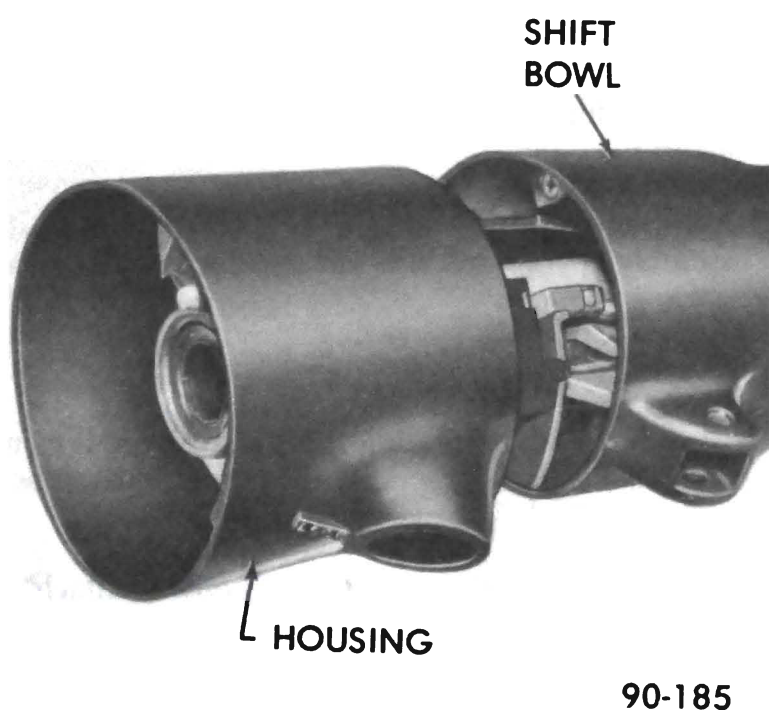

Figure 90-103 Installing Upper Bearing Housing
9. With the bowl in place, install the upper bearing housing assembly on the jacket. The bowl should be in the "Park" position and the rack pulled downward. Be sure the housing is seated on the jacket and install the screws. See Figure 90-103.